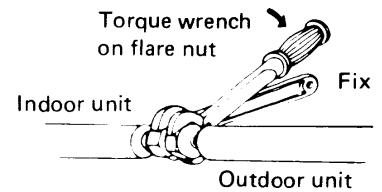

Fig. 5
- Flare nut small dia. tube should be torqued to 130 ~ 170 lb. in. Fig. 5.